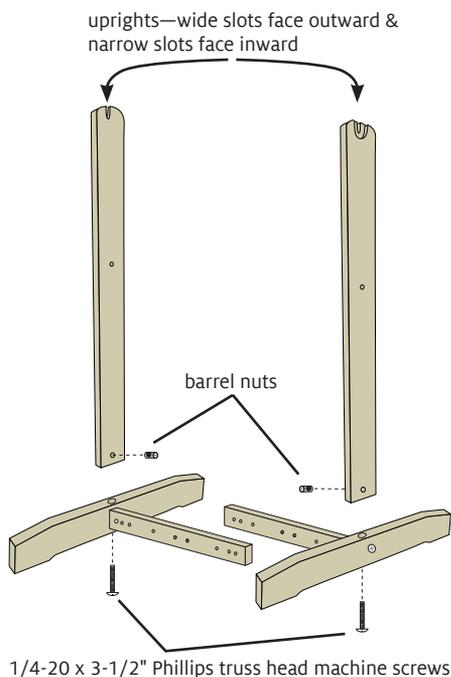

FIGURE 3: ATTACH UPRIGHTS TO BASES
- Orient uprights with the narrow slots at the top and facing each other (Figure 3).